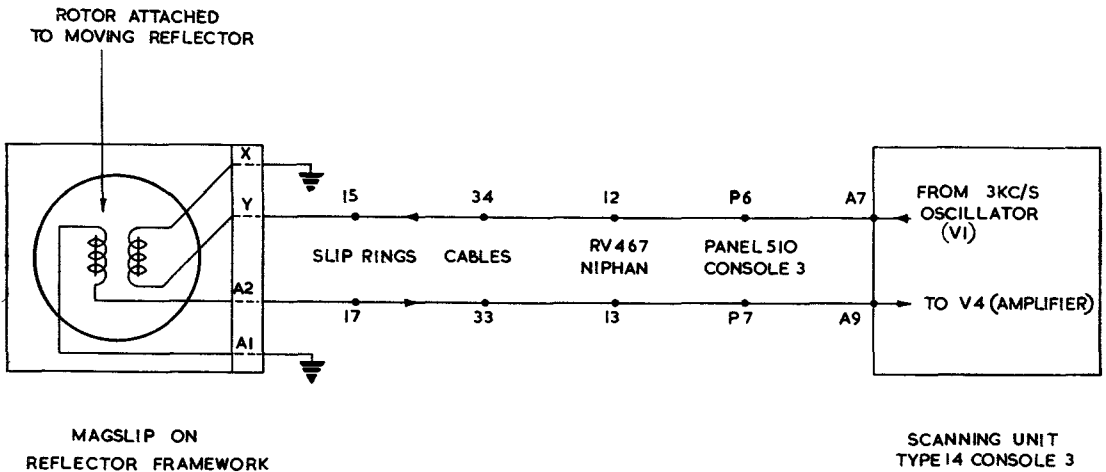

Fig. 29. Production of elevation scan : schematic diagram
79. As shown schematically in fig. 29, a 3 kc/s sinusoidal waveform of constant amplitude is generated by V1 in scanning